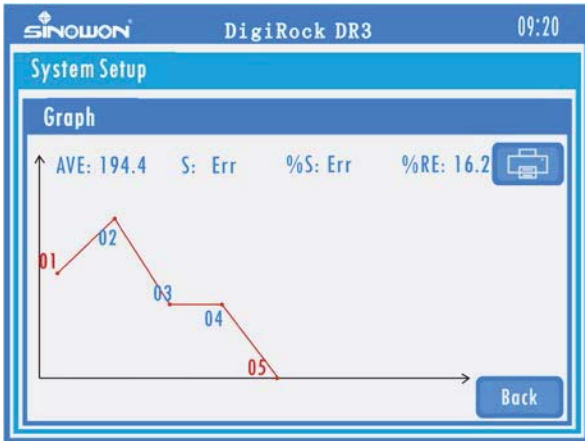

Fig 5-19 Single Test Review
- 3) **Graph**: under the result list to select more pieces data ( $\leq 10$ ), then click graph, system will show the curve to see the tendency and amplitude of variation, we can obviously see the differences between each data. The Max and Min value will be showed in red. See below picture Fig5-19, result on curve is the hardness value.